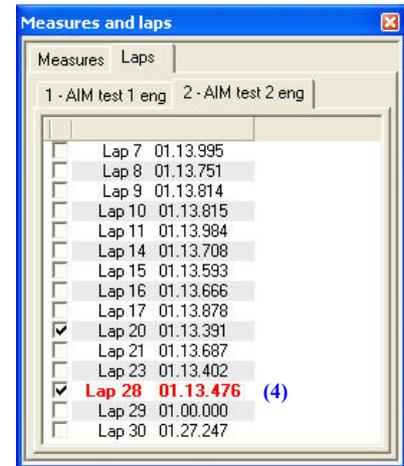

Fig. 4.6– *Measures and laps* toolbar: two laps selected (#20 and #28)
- Left click on the desired lap inside the *Test database and Laps manager* window and click the “Show lap” button (1).
- Check the box besides the desired lap inside the *Measures and laps* toolbar (see Figure 4.6).
- Left click on the desired lap inside the *Test database and Laps manager* window and click the “Hide lap” button (2).
- Remove the check in the box besides the shown lap inside the *Measures and laps* toolbar (see Figure 4.6).